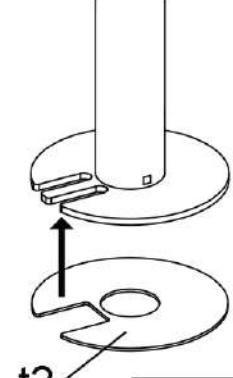

Figure 5
2. Attach Soft Pad(t2) to the Grommet Base Plate(m), see Figure 5.